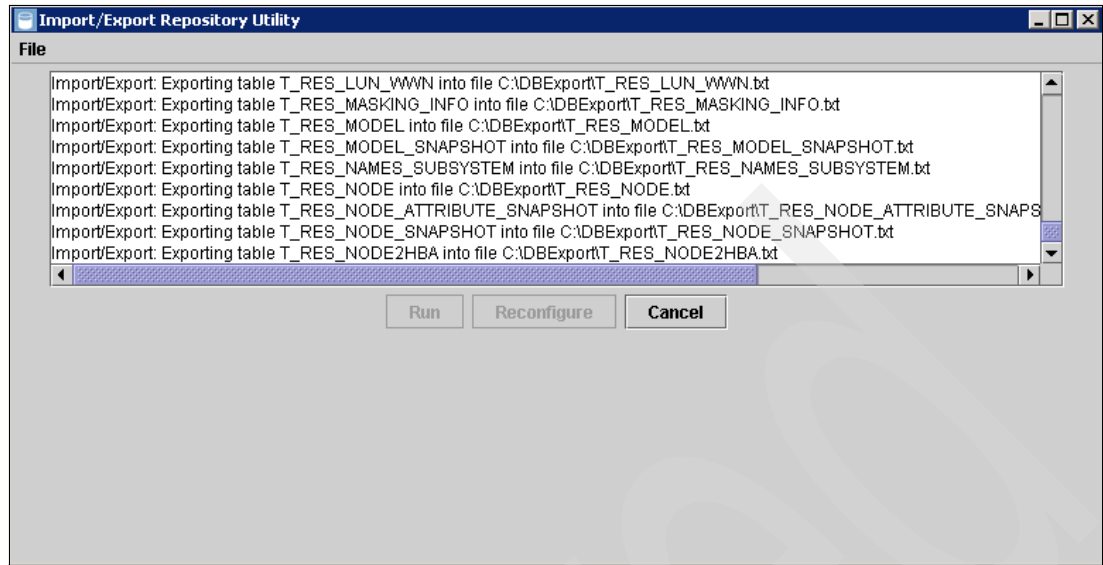

Figure 6-85 The export utility progress bar
8. Click **Run**. TPC provides you with the option to reconfigure your selection. A progress bar displays, and then, a list of tables that are being exported displays (see Figure 6-85 on page 306).